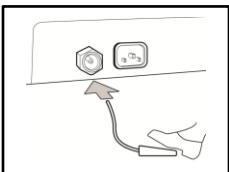

Figure 4
- D. **FOOT PEDAL / FOOT PEDAL CONNECTOR:** The foot pedal can be used to activate the punch. To use the foot pedal, the long black tube needs to be connected to the Foot Pedal Connector (Figure 4) on the back of the machine. The power switch should be turned on to Foot Pedal operation mode.